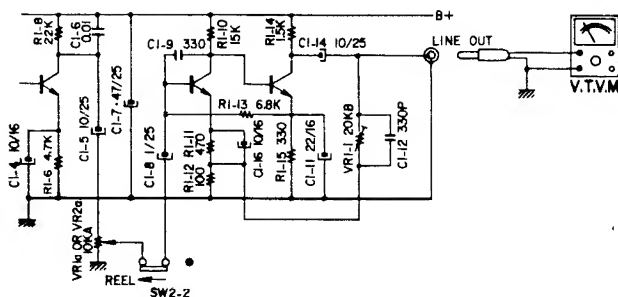

Fig. 3
(A) Playback (See Fig. 3) (Reel only)